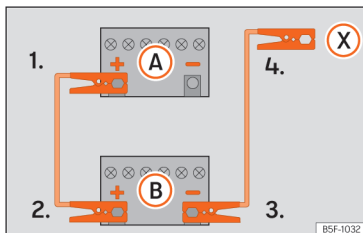

Fig. 82 Diagram of connections for vehicles without Start Stop system
2. Connect one end of the *red* jump lead to the positive (+) terminal of the vehicle with the flat battery (A) » » » Fig. 82.
3. Connect the other end of the *red* jump lead to the positive terminal (+) in the vehicle providing assistance (B).
- 4a. *In vehicles without a Start-Stop system:* connect one end of the *black* jump lead to the negative terminal (-) of the vehicle providing the current (B) » » » Fig. 82.